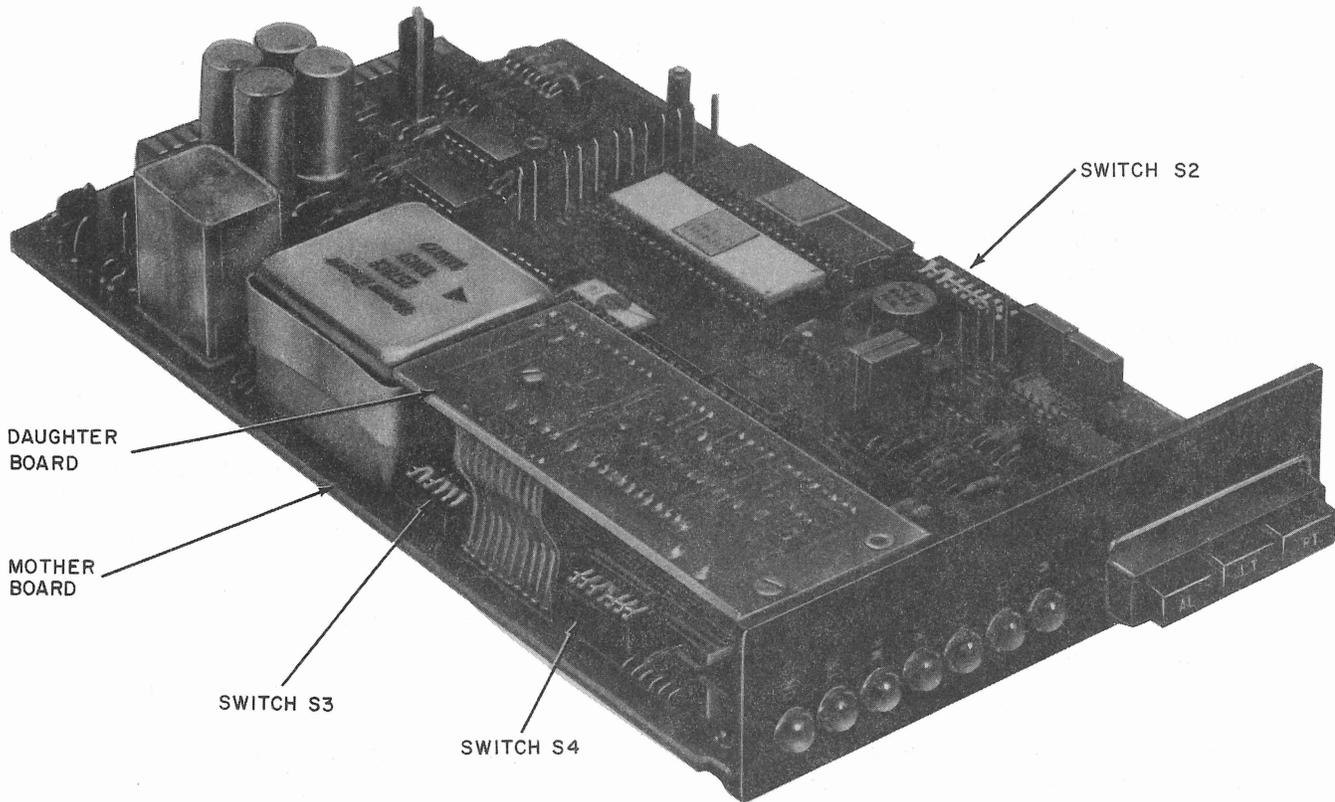

Fig. 2—DS 202SR-L1C
- DS 202SR-L1C: Consists of a printed circuit pack assembly with a faceplate as shown in Fig. 2.
2.02 This list code specifies the basic data set, which is a printed wiring board measuring 1.5 in. high, 5.6 in. wide, and 10.4 in. long. The data set weighs 1.5 lb. A faceplate is provided which contains the status indicators described in Table A and the three test switches covered in Part 3. All interconnections to the circuit pack are made via a connector at the rear of the board. DS 202SR-L1C incorporates a mother-daughter board arrangement and is similar in appearance to, and has the same features as DS 202S-L1C. This arrangement is illustrated in Fig. 2.